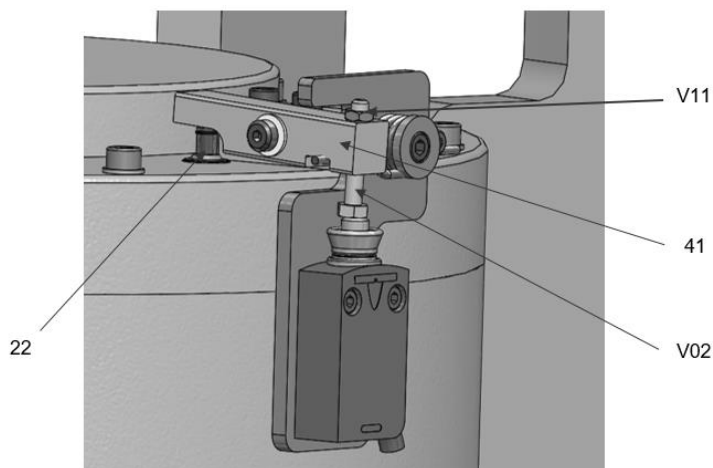

Fig. 5.10
- Loosen the locknut **V11** (8 mm A/F) see Fig. 5.10.